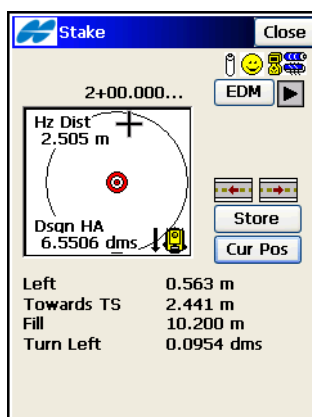

Figure 9-40. TS Stakeout Road
6. For TS: sight the prism. On the **Stake** screen, tap the **Cur Pos** button to measure the target. Tap the **EDM** button to select distance measurement mode: *Coarse*, *Fine* or *Coarse Tracking*. Once the position is close enough to the desired one, tap **Meas** to store it. Tap the  /  button to retreat/advance the station by the specified Station Interval, for staking out at the previous/next station, respectively (Figure 9-40).